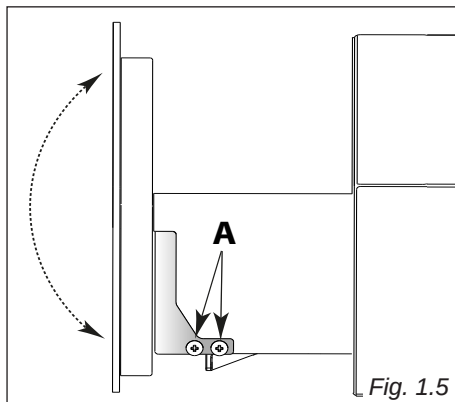

Fig. 1.5
- The inclination of the front panel can be adjusted after slackening screws "A" (fig. 1.5). When the panel is parallel to the cabinet and to the front of the appliance installed in combination with it, tighten screws "A" (fig. 1.5) again until tightly fastened.